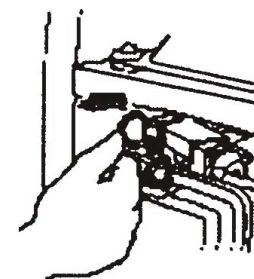

Figure 27
- 2.9 Once the engine is started, set the choke lever to ON position. (Figure 27)